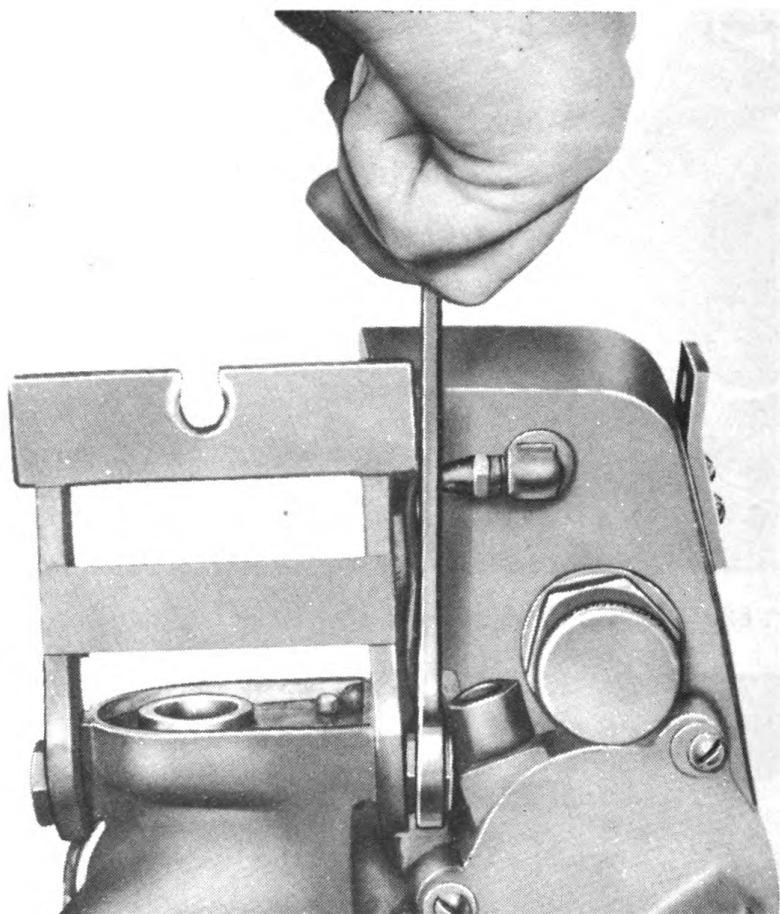

Fig. 84. Unscrewing barrel mounting pin.
b. Removal. Unscrew coupling locking pins with a thin open end wrench (fig. 84) and lift off the assembly.